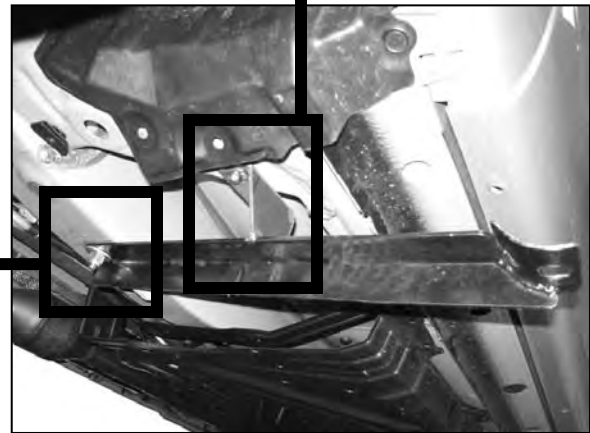

Fig 5
7. Partially hang driver side front Mounting Bracket to already inserted 12mm Bolt plate and secure it using (1) 12mm Lock Washer, (1) 12mm Flat Washer, and (1) 12mm Hex Nut (**Figure 5**). Proceed to attach the outer side of the front Mounting Bracket to already inserted 6mm Nut Plate and secure it using (1) 6mm x 25mm Hex Head Bolt, (1) 6mm Lock Washer, and (1) 6mm Flat Washer (**Figure 5**).